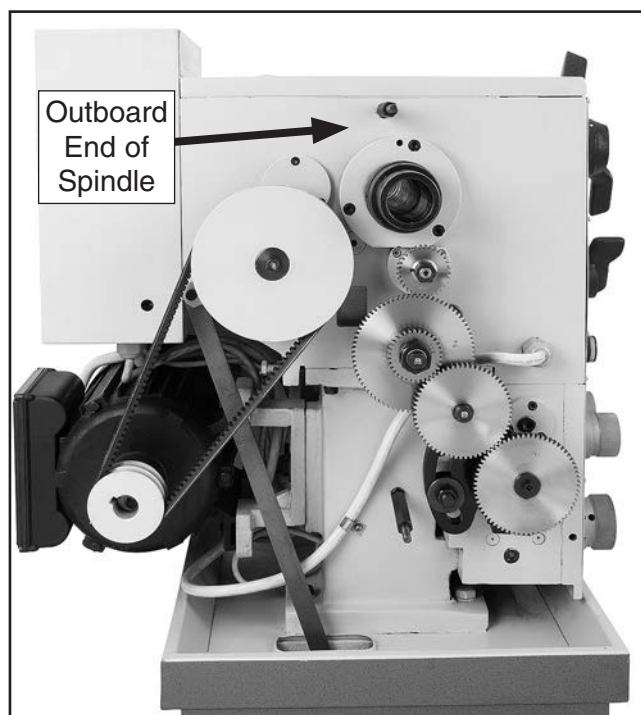

Figure 106. Location of outboard end of spindle.
3. Remove the chuck and spider bolts, then shift the spindle to neutral and remove the headstock gear cover to access the outboard end of the spindle (see **Figure 106**).